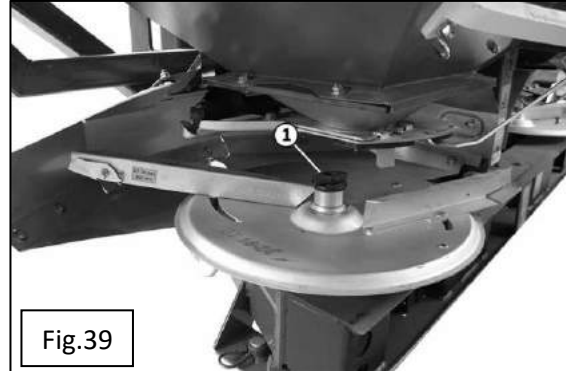

Fig.39
1. Remove the screw on the disc (Fig. 39/1)